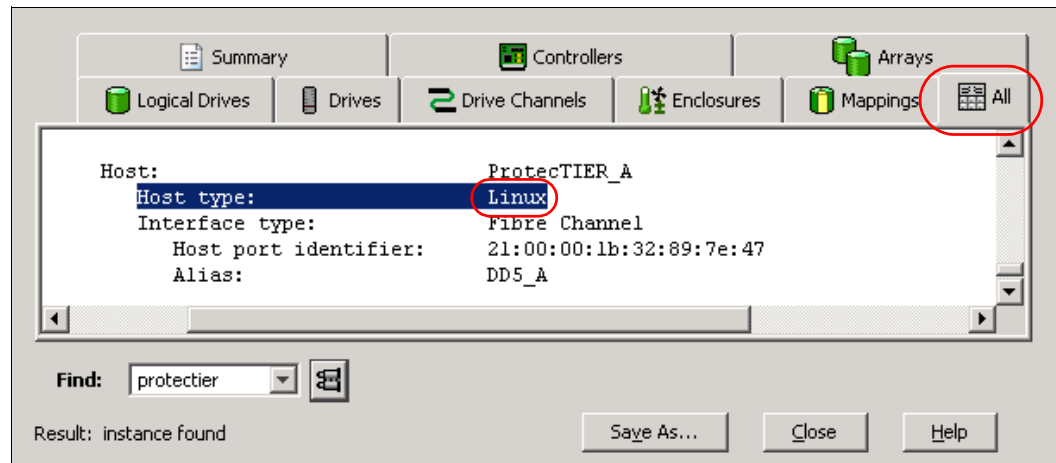

Figure B-2 Determine the host type of your ProtectTIER
- Determine the host type. If your host type is set at the subsystem level, modify the settings for the default host type (Figure B-2). If your host type is set at the host group level, modify the settings for the default group.